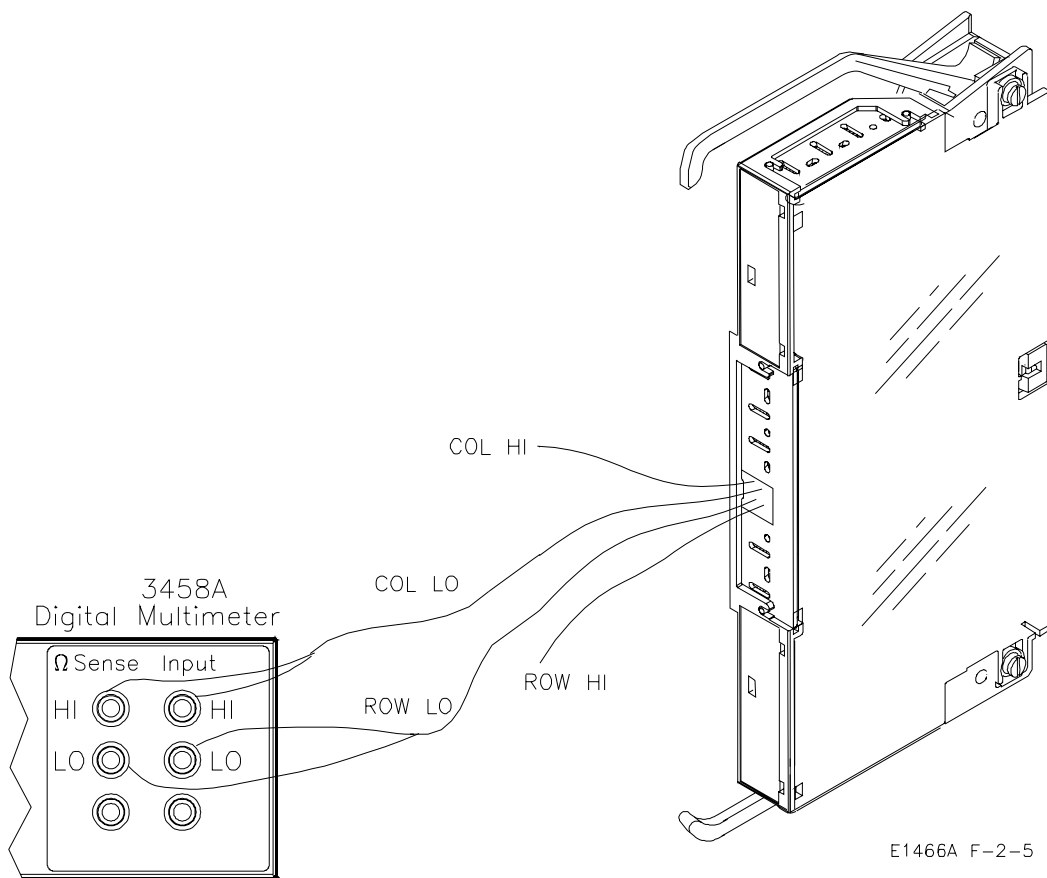

Figure 2-5. Column LO to Row LO Test Connections
- Connect DMM leads as shown in Figure 2-5